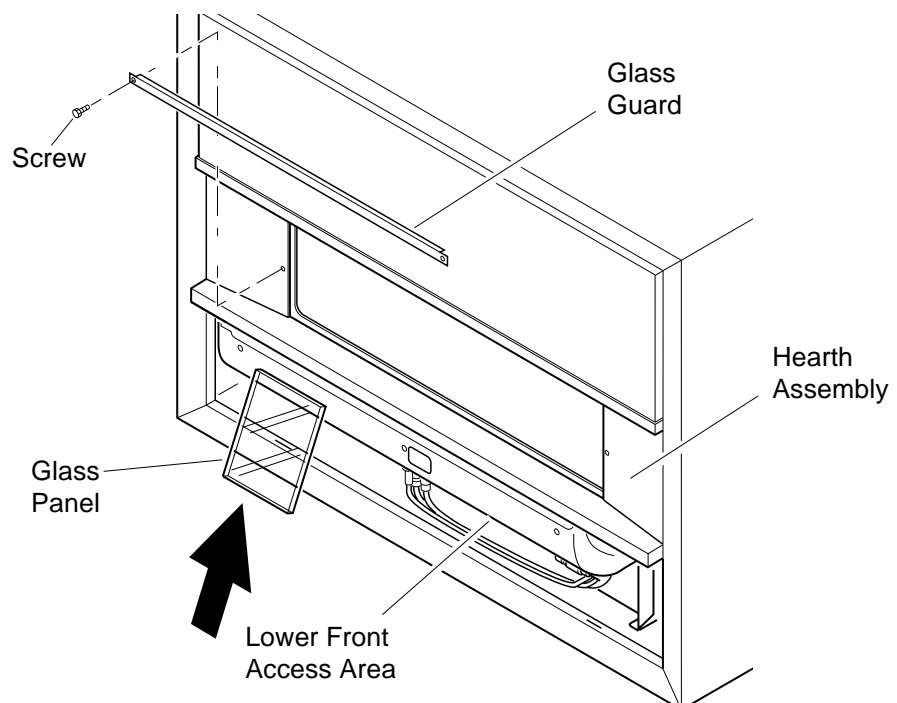

Figure 11 - Inserting Glass Panels
3. Remove two screws on glass guard. Remove glass guard (see Figure 11).
4. Carefully insert one glass panel up through lower front access area (see Figure 11).
5. Carefully slip glass panel behind hearth assembly (see Figure 11).